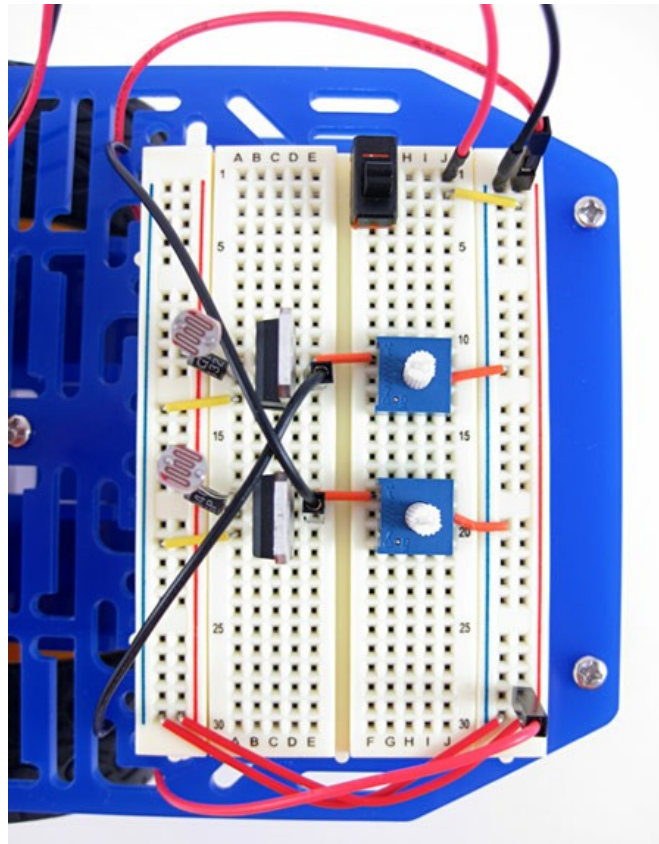

Figure 6. Your completed circuit should look like this.
2. Now that you know how to use a breadboard, you are ready to assemble your BlueBot circuit. Table 2 shows a list of all the components in the circuit and where they go on the breadboard. You can download and print a [PDF](https://www.sciencebuddies.org/science-fair-projects/breadboard-checklist.pdf) (<https://www.sciencebuddies.org/science-fair-projects/breadboard-checklist.pdf>) of this table—complete with checkboxes to track each step—to use while you are building your robot. You can also view a slideshow (#breadboard-slideshow) that shows breadboard diagrams of the circuit. Follow along in the table and/or slideshow to build your circuit one component at a time. Your finished circuit should look like the one in Figure 6 (#figure6). Pay attention to these notes: